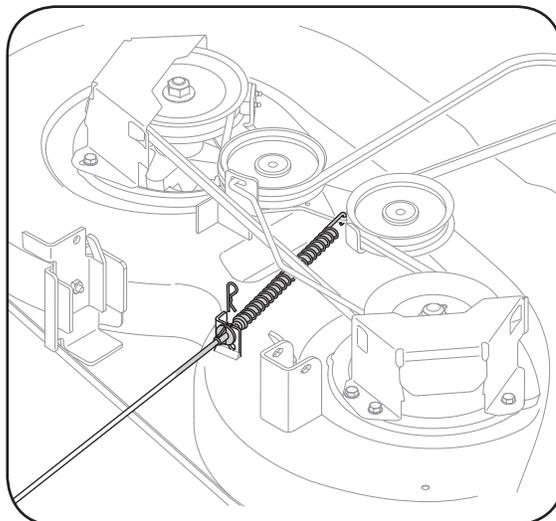

Figure 6-4
8. Carefully remove the PTO cable from the rear of the cutting deck by removing the hair pin clip which secures it. Remove the spring from the deck idler bracket. See Figure 6-4.